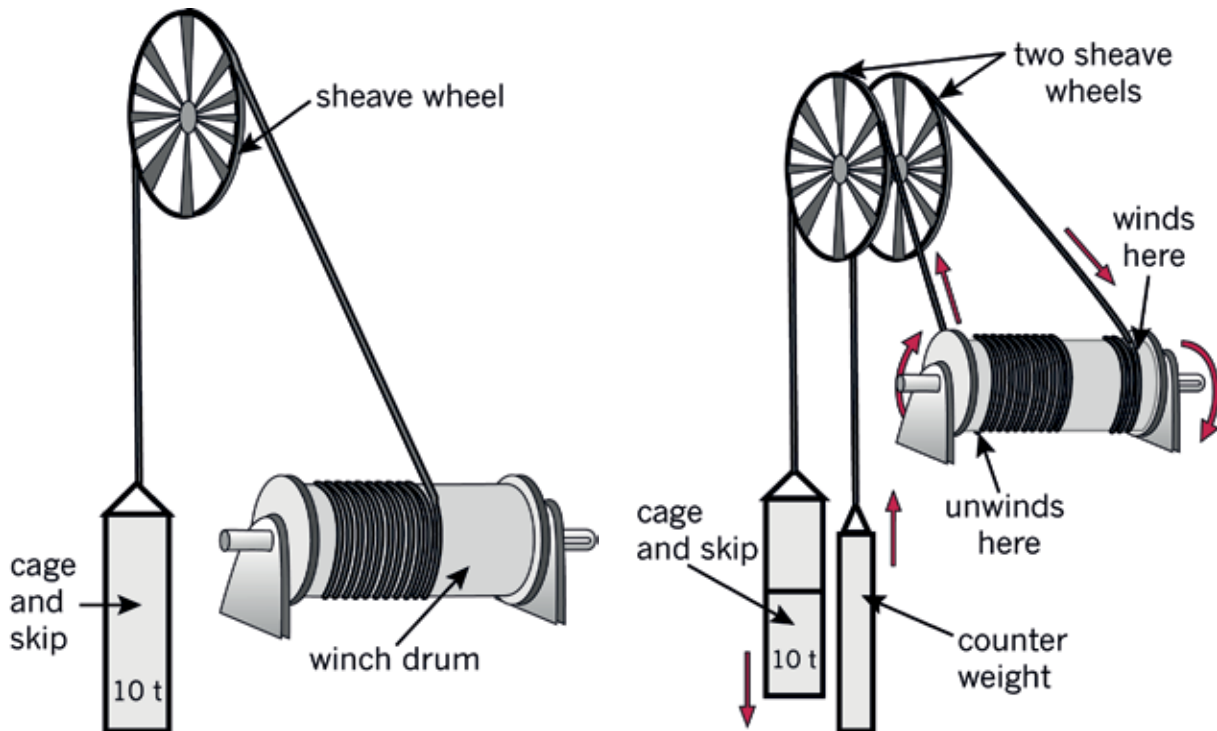

Figure 4: These are both mine winches with drum hoists. The winch on the right has two sheave wheels and a counterweight.
Look at the pictures in Figure 4. The pictures show two different types of mining hoists. The first one has one sheave wheel, while the second has two sheave wheels. Use these pictures to help you answer the questions below:
6. Which of the two systems in Figure 4 do you think will need the largest motor? Explain your answer. (1)